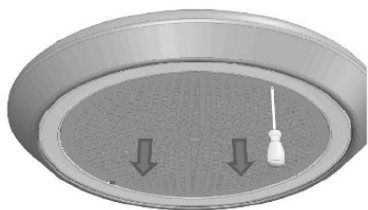

FIG.15
- › An accurate maintenance guarantees good functioning and long lasting performance. Particular care must be made when handling the grease filter. The grease filter is fixed through magnets, therefore it is sufficient to insert a hand tool or the tip of a knife in the dedicated opening and push upwards in order to pull the filter out of its place (Fig.15). In order to remove the filter from the hood, unhook the two security cables, opening their snap-hooks. The active charcoal filter has to be removed after the extraction of the grease filter by pushing the specific handle (Fig.16).